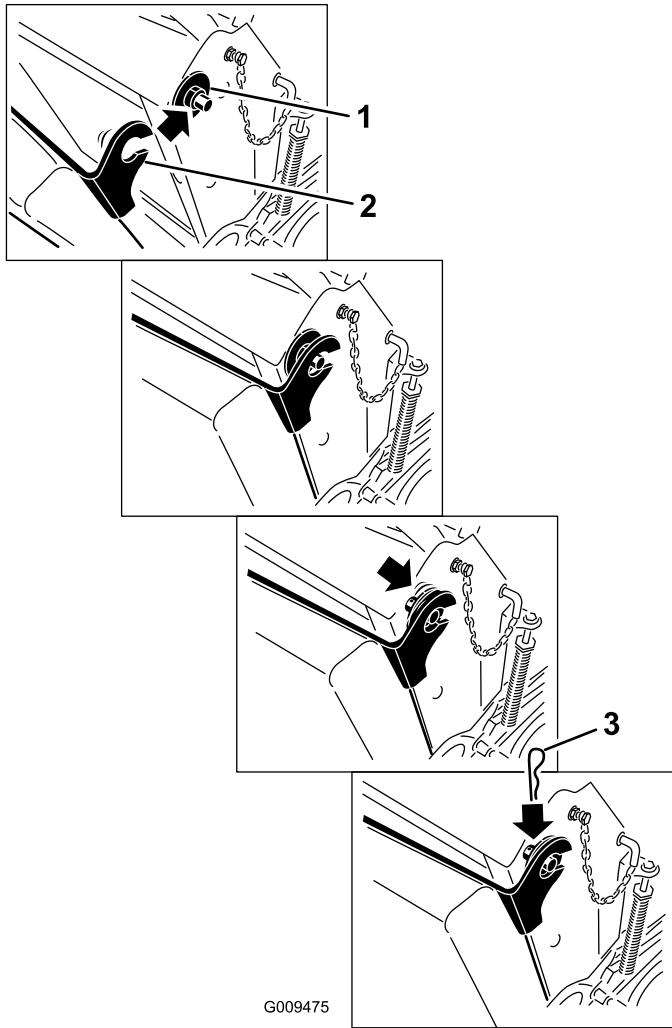

Figure 36
6. Raise the cushion and slide it onto the pins on both sides of the machine (Figure 36).
7. Slide the large washers with the plastic bushings into the cushion bracket, and secure them with a hairpin-cotter pin (Figure 36).